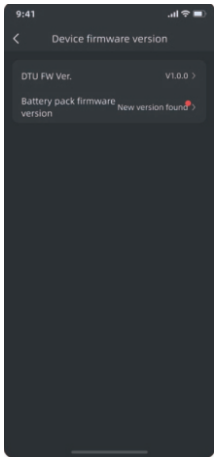

Figure 1
1)Figure 1: Check the current system firmware version and DTU firmware version of the device. When there is a new version, it will prompt **"New version found"** and can be upgraded.